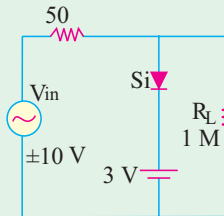

Fig. 52.53
5. Sketch the voltage across R_L in the clipper circuit of Fig. 52.53.
15. The approximate value of V_o across the diode in Fig. 52.53 is